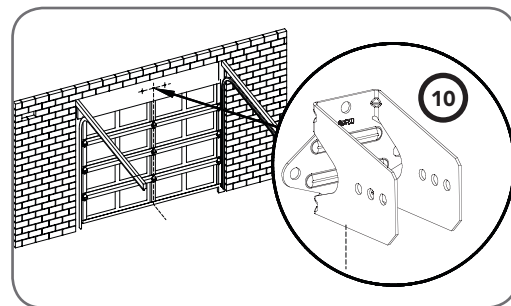
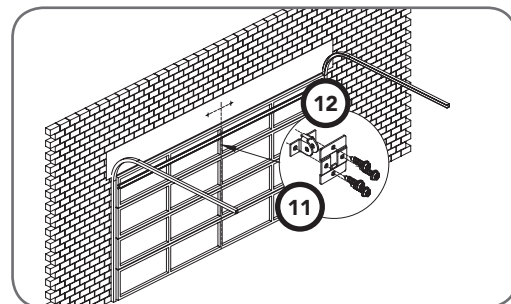

Fig 5.3
Fig 5.4
- Mark the position of the wall bracket (10) on the wall above the door (Fig. 5.3).
- Secure the wall bracket (10) in place with loxins or appropriate fasteners (not supplied).
- The door bracket comes in two parts. The door bracket locator (11) is placed over the door bracket (12) and uses 4 mounting holes for extra strength. Mount the door bracket to the centre line of the door (Fig. 5.4), using M6 or equivalent screws (not supplied) Alternatively it can be welded on steel doors.